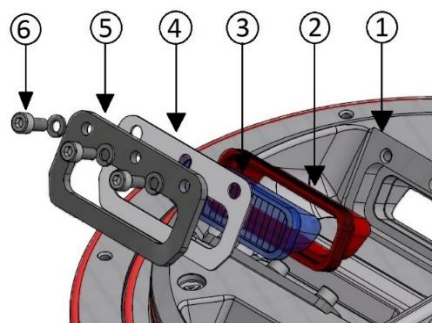

Figure 23 – Prism Gasket
- prism gasket mounted between prism and dome (Figure 23- n°2).